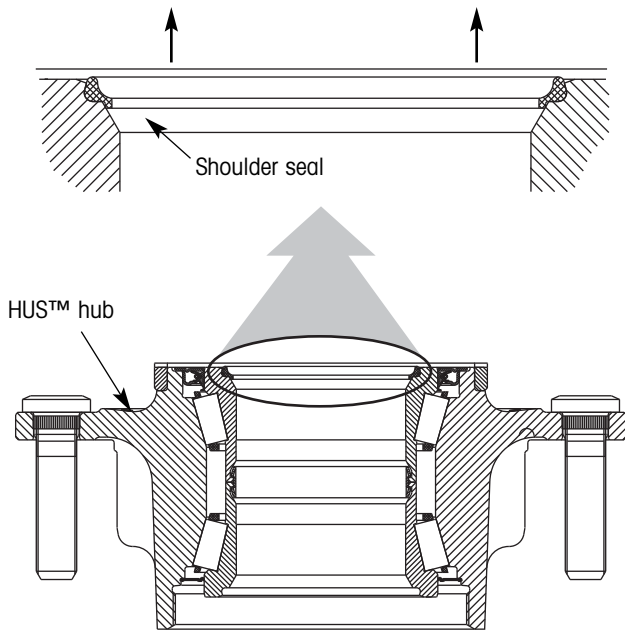

Figure 14. Shoulder seal location
1. Carefully remove the existing shoulder seal (figure 14). Take care not to scratch, nick or otherwise mark the hub bore when removing the seal.